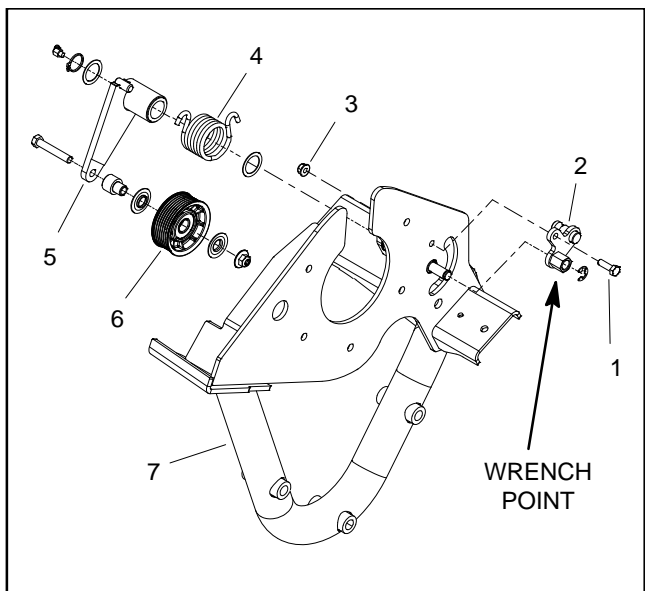

Figure 104
3. Remove torsion spring tension from generator belt idler bracket (Fig. 104):
3. Apply torsion spring tension to generator belt idler bracket (Fig. 104):